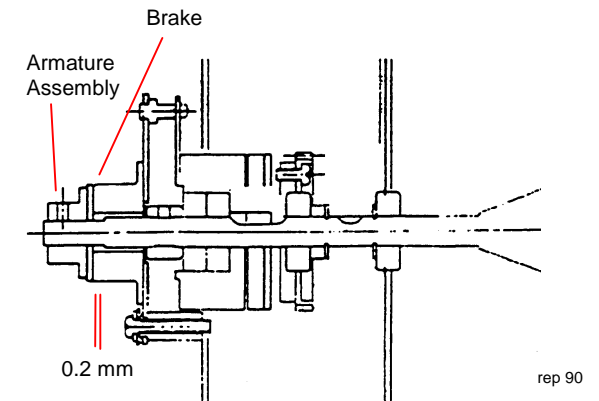

Figure 3. Setting the Brake Gap
1. (Figure 3): Set the gap between the brake and the Armature Assembly to 0.2 mm.